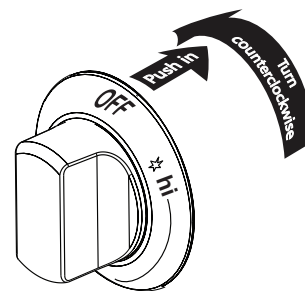

Figure 9: Correct way to set burners
2. Push the desired surface control knob in and turn counter-clockwise out of the **OFF** position and rotate the knob to the  icon (Figure 9). Visually check that the burner has lit.